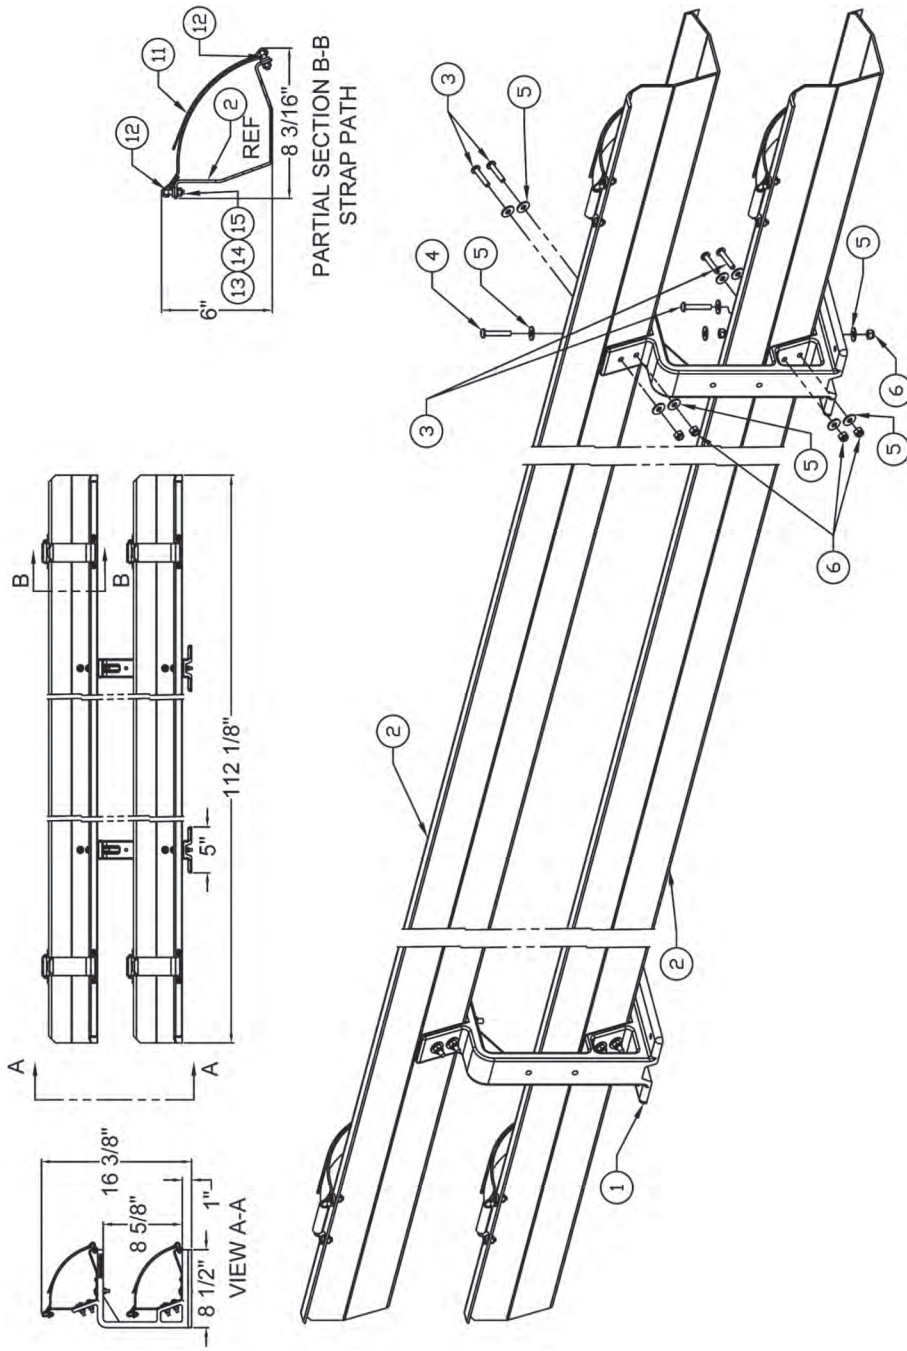

FIGURE 5
- E. HHS-TMV-2: Vertical Hard Suction Mounting Kit with (2) 10' Trays. (Figure 5)